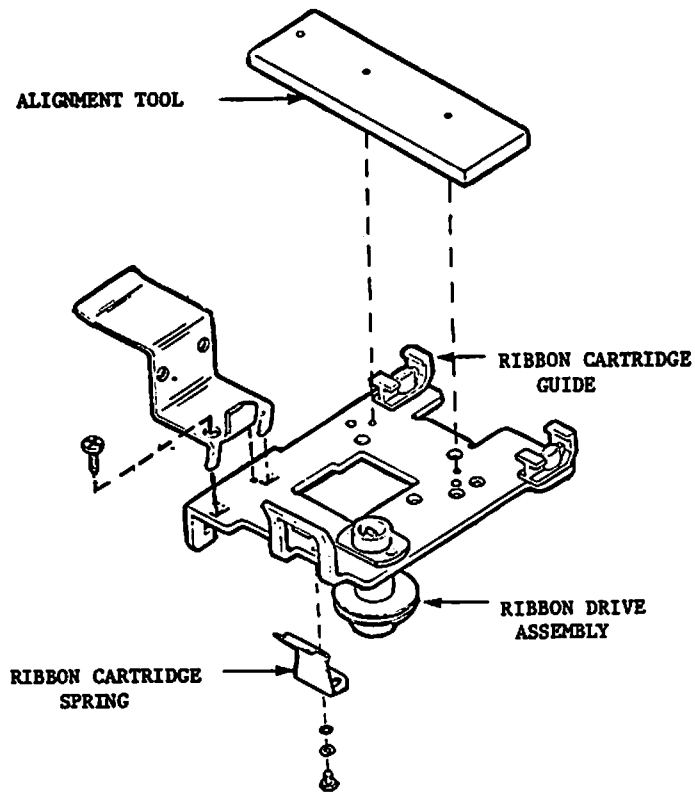

FIGURE 5-11 CARRIAGE ASSEMBLY
- 1) The distance from the center line of the ribbon clutch to the inside front edge of the ribbon cartridge guides is 4.38 to 4.42 inches (11.12 cm to 11.23 cm) (Figure 5-11).
- 1) Loosen Allen screws and move ribbon cartridge guides in appropriate direction (Figure 5-11).
- 3) Loosen hex head screws on bottom of carriage and move ribbon cartridge spring in appropriate direction (Figure 5-11).
- 4) Remove ribbon cartridge spring screws from bottom of carriage assembly and slide ribbon cartridge spring out (Figure 5-11).